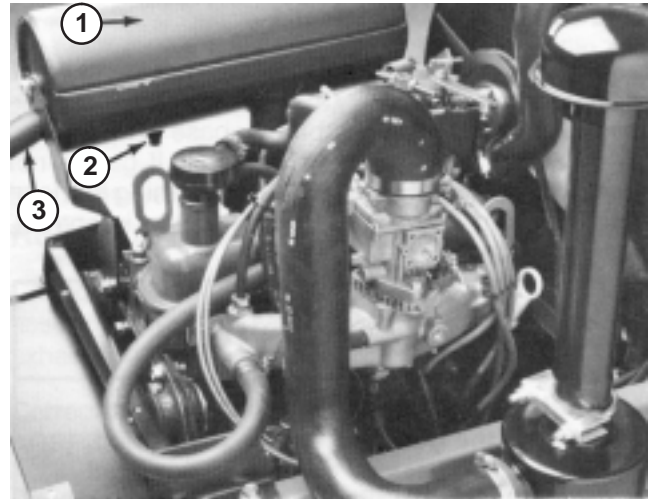

Figure 38
2. Remove pipe plug from clean-out port at lower side of muffler (Fig. 38).